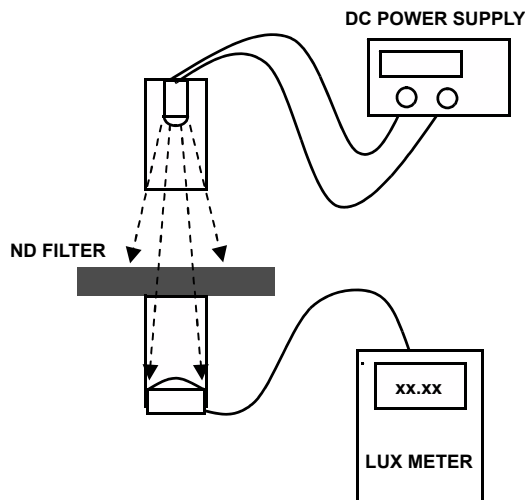

FIGURE 2. ND FILTER CHARACTERIZATION SETUP
The ISL29020 low light measurement is done through 3 steps due to the fact that the sensitivity of lux meter can only measures down to 0.01 lux. The first step is to characterize the neutral density (ND) filter attenuation factor (Figure 2). The second step is to find a light source that is able to create a light intensity from 0.001 lux up to several lux. The third step is to measure the ISL29020 low light sensitivity.